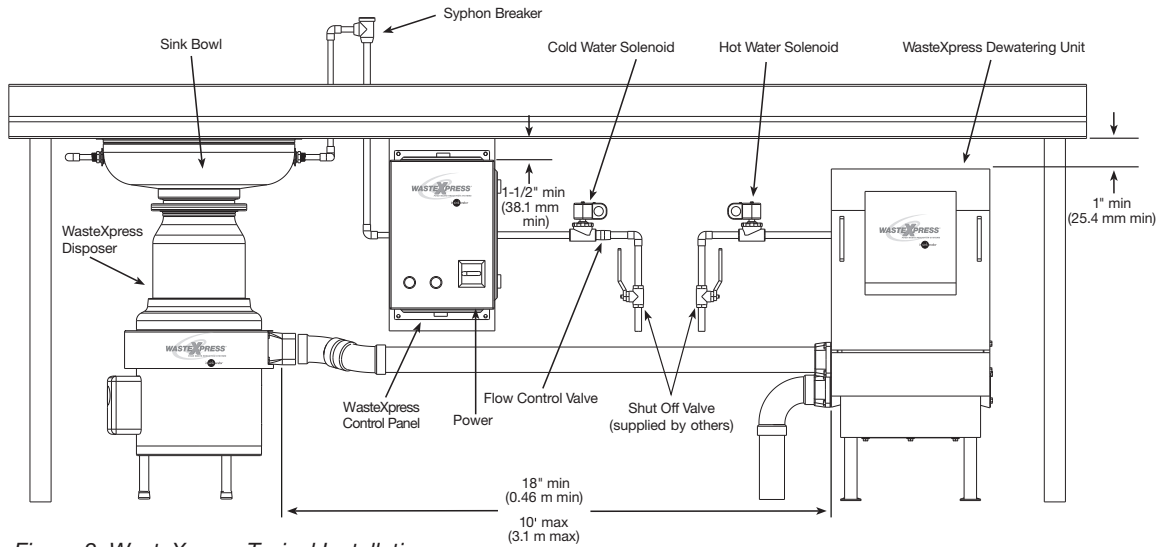

Figure 2. WasteXpress Typical Installation
- For proper removal of discharge chute, ease of cleaning, and general maintenance: Position the dewatering unit with the front surface of the discharge chute recessed 3" (76.2 mm) from the front edge of the table and with a minimum clearance of 1" (25.4 mm) between the underside of the table and top of the discharge chute (see Figure 2).
- Position the dewatering unit within 10' (3.1 m) of the disposer outlet flange (see Figure 2).